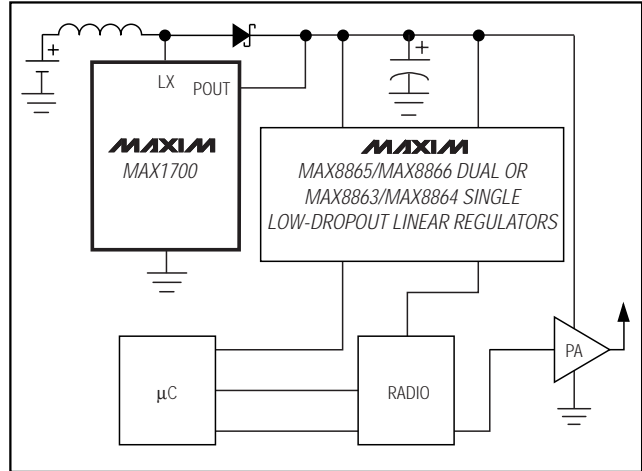

Figure 11. Typical Phone Application
The MAX1700/MAX1701 are ideal for use in digital cordless and PCS phones. The power amplifier (PA) is connected directly to the boost-converter output for maximum voltage swing (Figure 11). Low-dropout linear regulators are used for post-regulation to generate